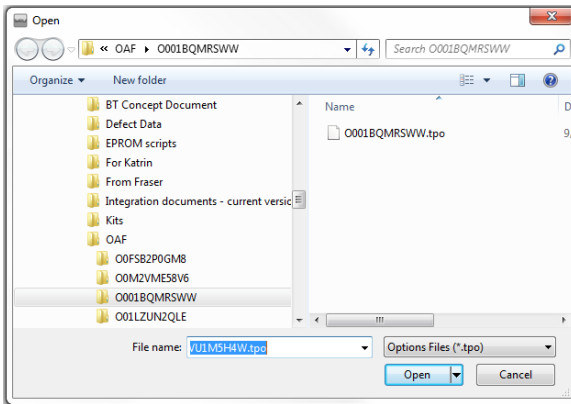

Figure 5-6. Load OAF
3. Navigate to the location of the new Option Authorization File, select the appropriate file, and press **Open** (Figure 5-6).